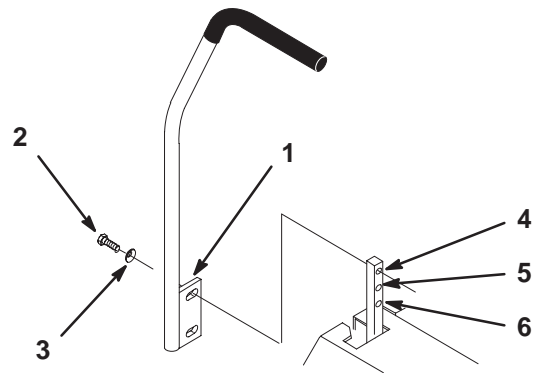

Figure 4
There are two positions to install the control levers, high and low. Install levers in the top and middle holes for the high position. Install levers in the middle and bottom holes for the low position (Fig. 4).
- Remove the 4 bolts (3/8 x 1 inch) and 4 spring washers (3/8 inch) which attach the motion control levers to the control arm shafts for shipping (Fig. 4).
- Place the levers (with the mounting plate toward the rear) on the outside of the control arm shaft and secure with 4 bolts (3/8 x 1 inch) and 4 spring washers (3/8 inch) (Fig. 4).
- Align the front/rear position of the levers, with each other, in the neutral position. Loosen hardware and adjustment by sliding/tilting the lever(s) forward or backward until properly aligned (Fig. 4).